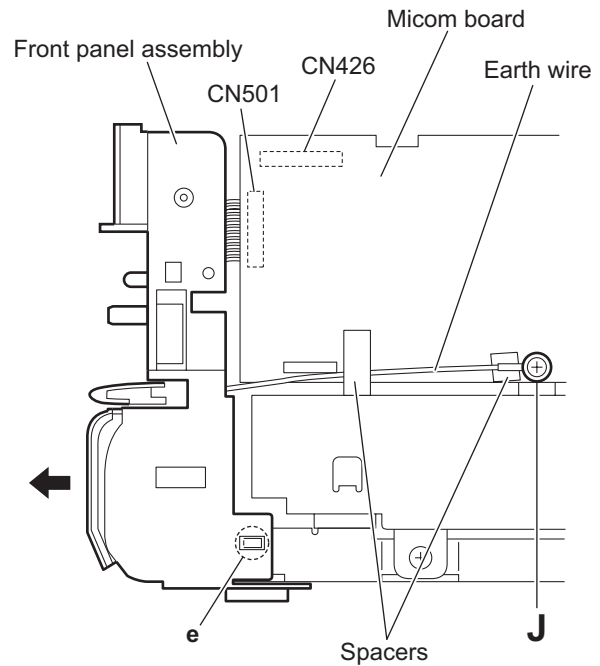

Fig.8
- (2) From the forward side of the micom board, disconnect the card wire from the connector **CN426**. (See Fig.8.)
- (3) Disconnect the wire from the connector **CN501** on the micom board. (See Fig.8.)
- (4) From the right side of the main body, remove the screw **J** and remove the earth wire. (See Fig.8.)
- When attaching the screw **J**, attach the earth wire with it. (See Fig.8.)
- After attaching the earth wire, fix it with the spacers as before. (See Fig.8.)